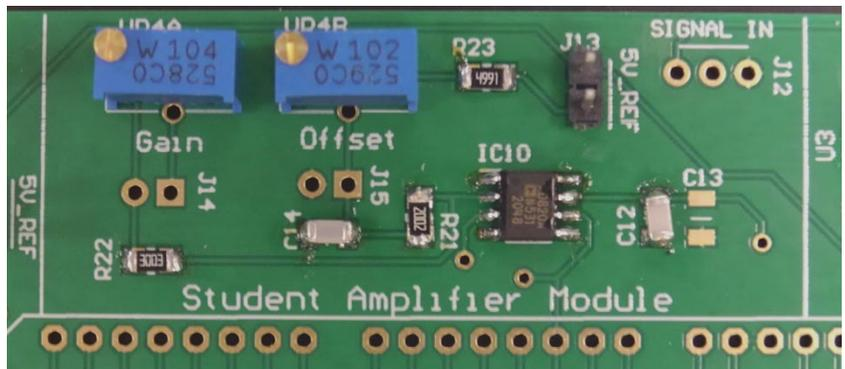

Figure 56: Assembled Student Sensor Amplifier Circuit.
40. Your assembled pressure circuit should now look like Figure 56.